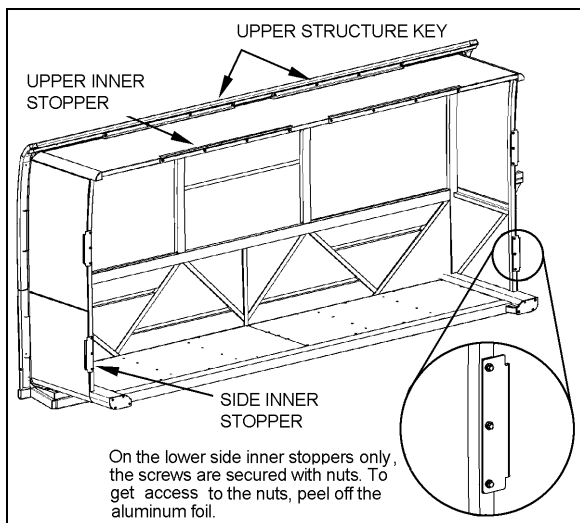
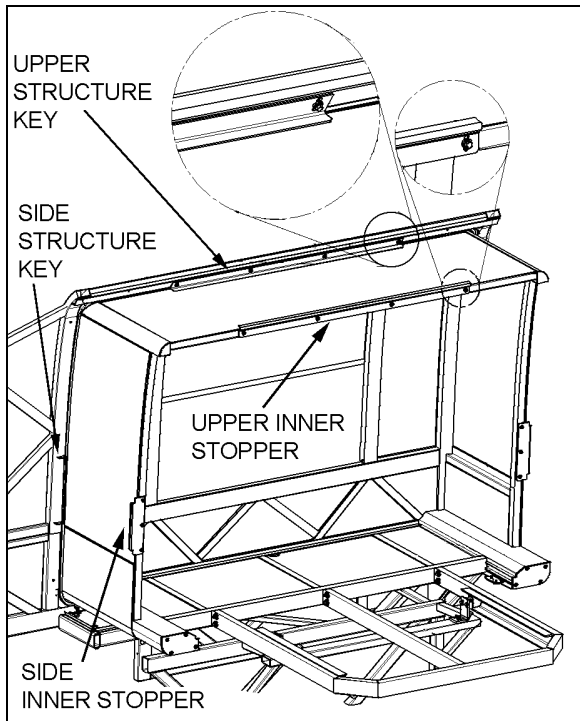

FIGURE 3: FRONT SLIDE-OUT
FIGURE 4: REAR SLIDE-OUT
The front slide-out is equipped with six inner stoppers laid out in the following way: two stoppers on the top horizontal member of the slide-out, and two stoppers on each vertical upright, while the rear slide-out is equipped with only three stoppers (Figure 3 & Figure 4). The upper inner stoppers are used to provide a support to position perpendicularly the slide-out with the vehicle structure.
The side inner stoppers are used to block the extension of the slide-out. They act as ultimate physical limits but take note that when the "out limit" sensors are properly adjusted, the slide-out extension stops before the side inner stoppers reach the side structure keys (Figure 3 & Figure 4).
2. Adjust the upper structure key and the upper inner stoppers according to FIGURE 4 with the seal deflated. When inflating, the seal presses the roof structure upward and at that moment, the upper inner stopper comes into contact with the upper structure key